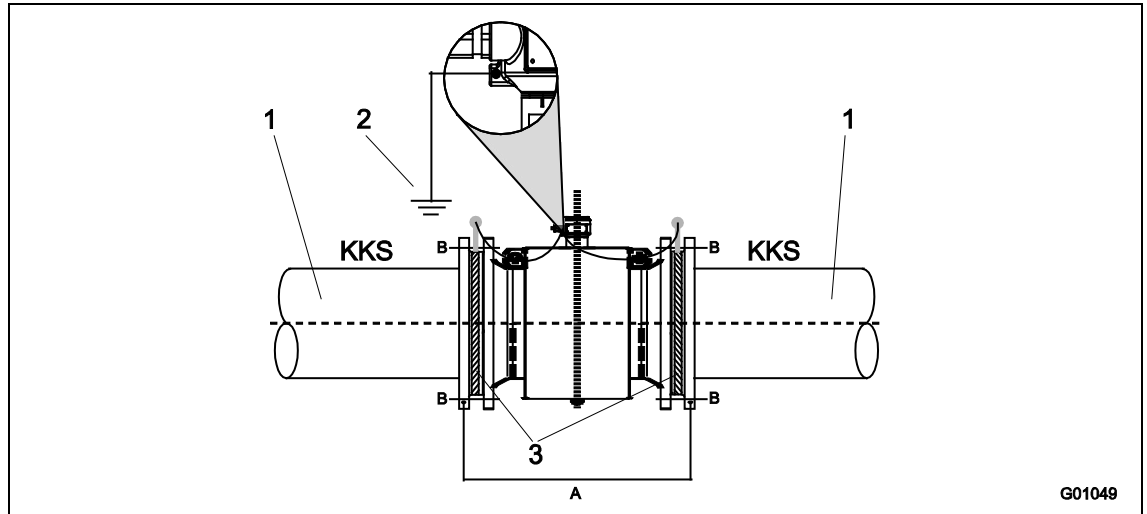

Fig. 22: Flowmeter sensor with grounding plate and functional ground
- When installing an EMF in pipes with insulating inner lining and free from foreign matter, it should be insulated with grounding plates on the upstream and downstream side. The CCP potential is diverted. The grounding plates upstream and downstream of the EMF are connected to functional ground ( Fig. 22).